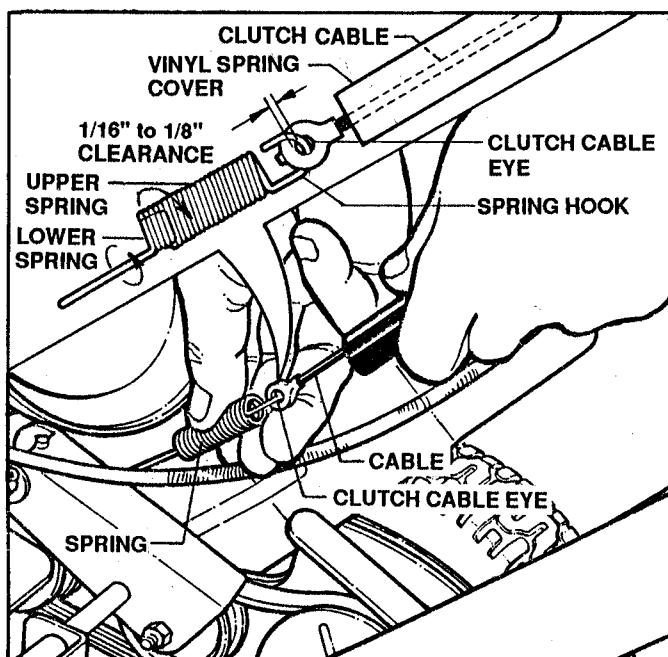

FIGURE 3.8
- A. The wheel drive control is properly adjusted when there is 1/16" to 1/8" clearance between the inside of the spring hook and the inside of the clutch cable eye. See Figure 3.8.